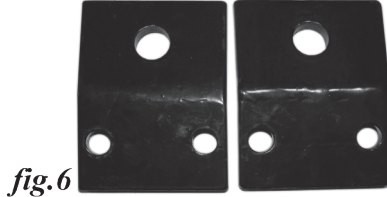

fig.6
5. Attach the two skid shoe holders (fig.6) to the bottom of the lower cross rib on the back of the plow blade. They should be attached so that they are cupped upwards, the ends of the holders with the two holes angled slightly when the blade stands vertically and the end having the single large hole aligned horizontally so that the shoes are vertical. To attach each, use 2 M12 x 32 mm gr.8 hex head bolts inserted from below, and 2 M12 Nylock nuts threaded on from the top to attach it to the cross rib.